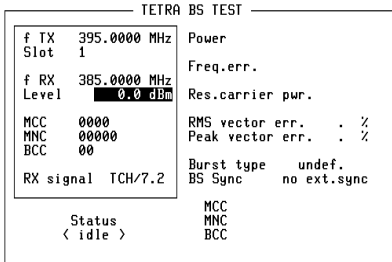

Fig. 10.1:
- 5) To call up the TETRA basic mask, press **[AUX]** + **[DATA]**. Fig. 10.1 shows the screen that appears then; it is called the TETRA basic test mask.